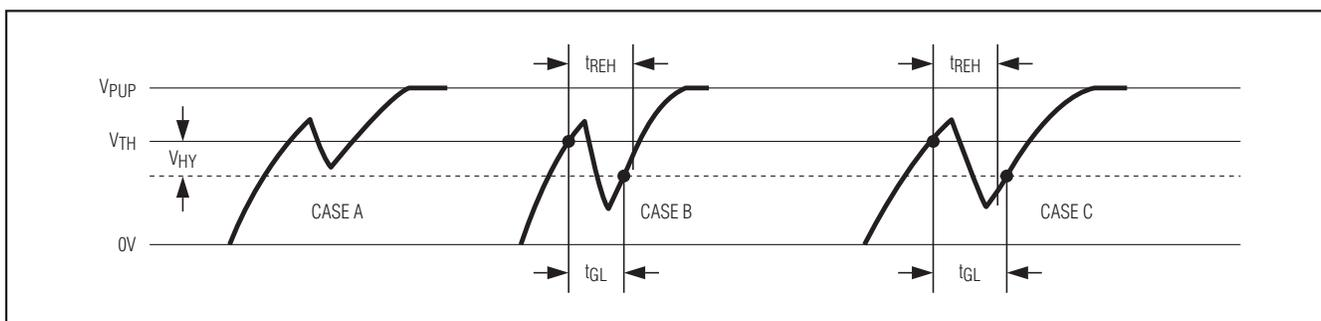

Figure 12. Noise Suppression Scheme
- 2) There is a hysteresis at the low-to-high switching threshold V_{TH} . If a negative glitch crosses V_{TH} but does not go below $V_{TH} - V_{HY}$, it will not be recognized (Figure 12, Case A).
- 3) There is a time window specified by the rising edge hold-off time t_{REH} during which glitches are ignored, even if they extend below the $V_{TH} - V_{HY}$ threshold (Figure 12, Case B, $t_{GL} < t_{REH}$). Deep voltage drops or glitches that appear late after crossing the V_{TH}
threshold and extend beyond the t_{REH} window cannot be filtered out and are taken as the beginning of a new time slot (Figure 12, Case C, $t_{GL} \geq t_{REH}$).